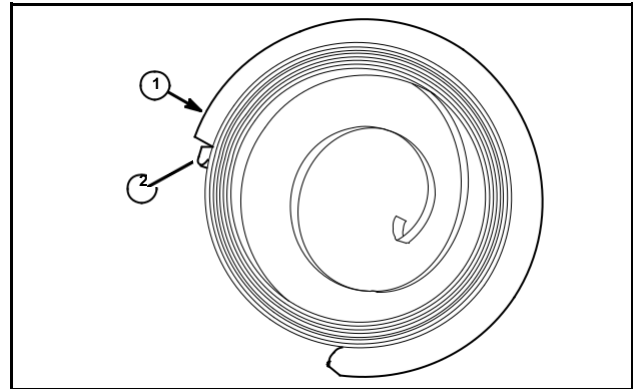

Fig. 29
NOTE: Service springs are held in a retainer (1). For ease of assembly, outer hook (2) of spring should be against end of retainer, Fig. 29. If not, rotate spring until hook is against retainer.